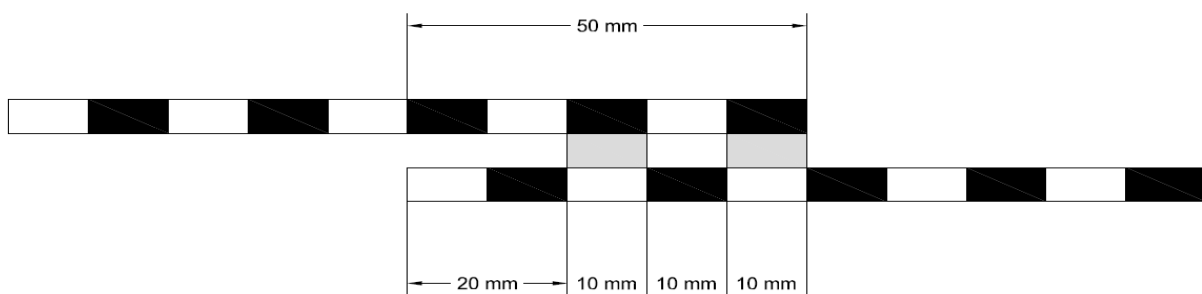

Figure 2
- c. If a double weld joint is being adopted then the membrane overlapping should be 50 mm in width with 2 x 10 mm welded sections and 10 mm space in between each joint (Figure 2).